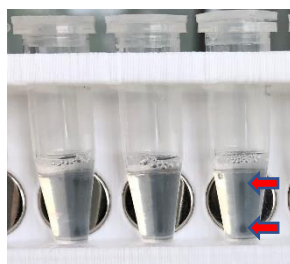

Figure 3. Magnetic nanoparticles accumulated after 10 minutes on the magnetic rack. The arrows pointed to the areas of maximum accumulation.
5. Place the vials on a magnetic rack for 30 minutes, protect from light. The nanoparticles will accumulate against the wall of the vial as shown in Figure 3. This should be obvious with negative and positive control, but may be barely visible or not visible at all with clinical specimen.